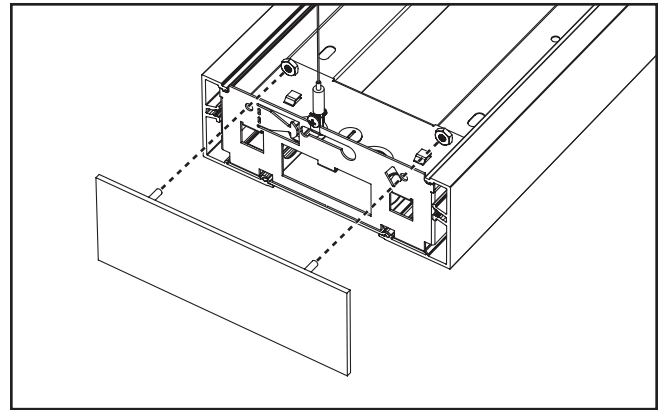

Figure 10.
2. End Plate: Slide into end of fixture and secure with two 10-32 nuts. (Figure 10.)